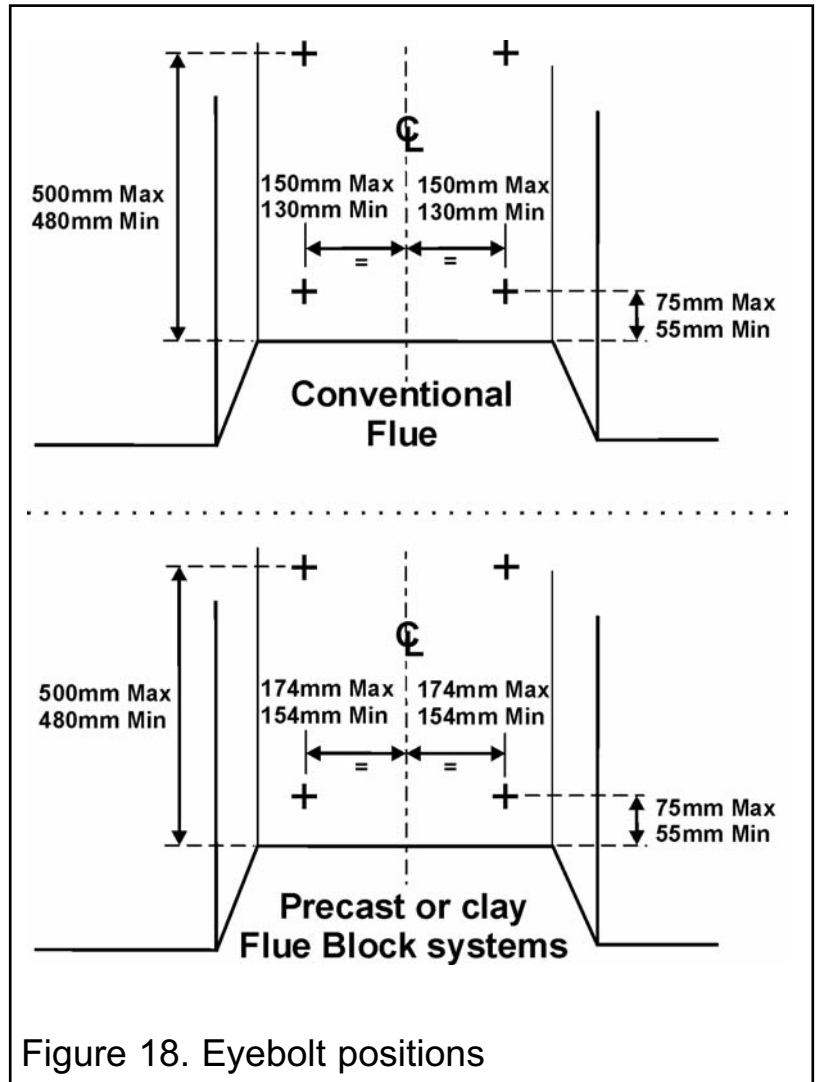

Figure 18. Eyebolt positions
2. Drill four holes in the rear wall of the fireplace for the fibre / wooden plugs. The holes should be drilled within the range of positions shown in figure 18 using a suitably sized masonry drill bit for the fibre / wooden plugs supplied. The holes should be equidistant each side of the centre line of the fireplace to ensure that the appliance finishes centrally in the opening when tension is applied to the cables.